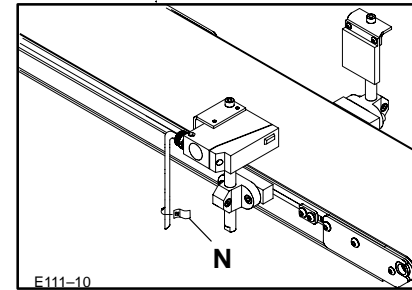

Figure 10: Cable Labeling (Detail provided only on Photo-Eye End of Cable)
6. Label both ends of the Photo-Eye Cable using blank Labels (N) provided (Figure 10), using a permanent marking pen.